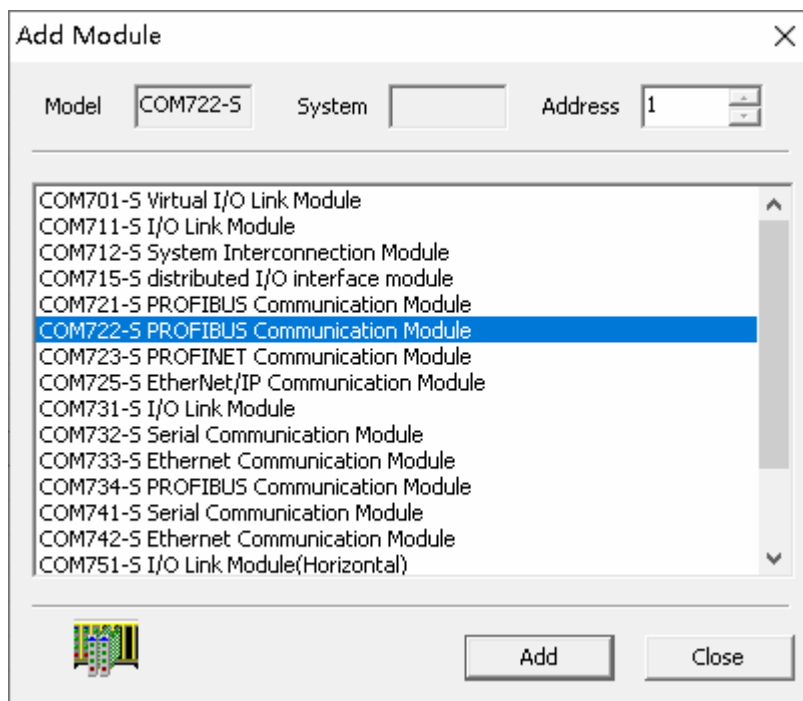

Figure 4-1 Add COM722-S
1. Select the main controller, right click and then select “add” or “operate (O)/add (A)” in the menu or directly click the  in the tool bar, then a dialogue box shown in Figure 4-1 will pop up. Select “COM722-S PROFIBUS master station communication module” and corresponding address, then click “add” to finish the adding process.